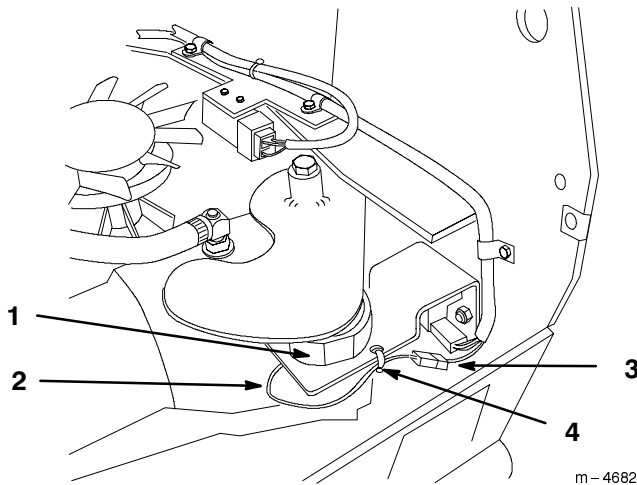

Figure 14
2. Install a plastic tie through hole in bracket and attach the magnet lead (Fig 14).